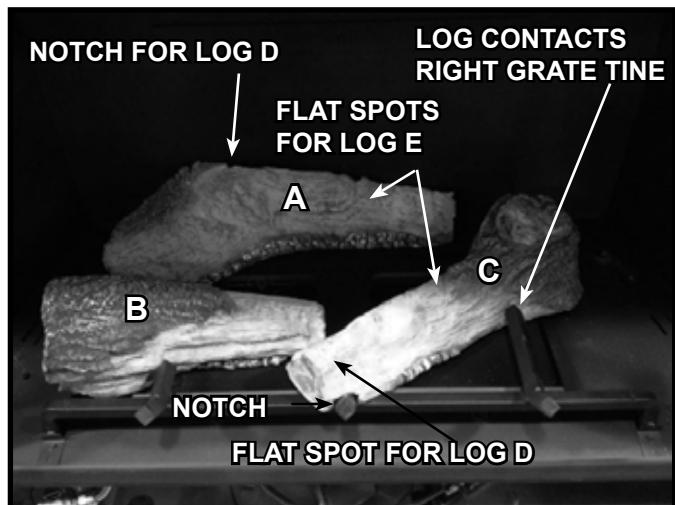
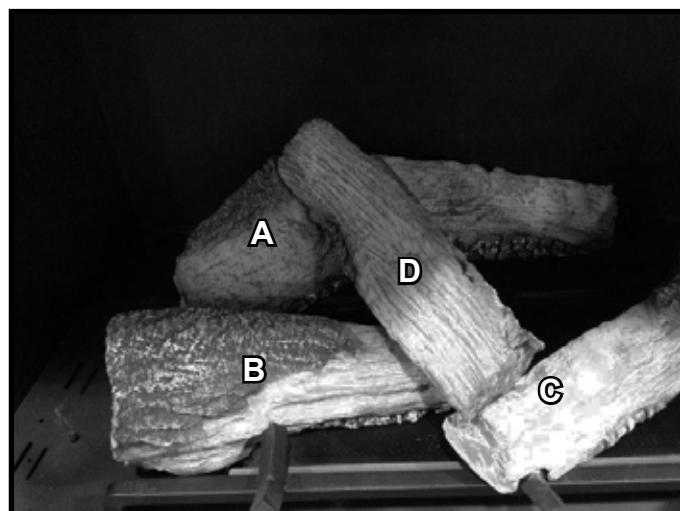
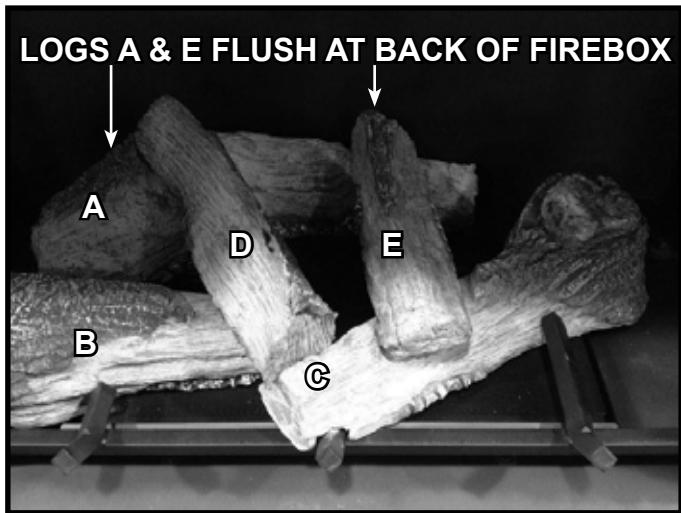

Figure 7. Log C Installed
Figure 8. Log D Installed
Figure 9. Log E Installed
3. (LOG C): Locate the notch on Log C. Place the notch over the center grate tine as shown in Figure 7. Slide the log toward the front of the appliance until the portion of the log closest to the rear of the firebox contacts the right grate tine.
4. (LOG D): Log D will utilize two flat spots for its placement as shown in Figure 7. The flat spots are located on Log A and on Log C. Locate the end of Log D that does not have bark and place it into the notch on Log A. Place the other end of Log D on the flat spot on Log C. See Figure 8. The front edge of Log A may lift slightly off the burner/hearth pan when Log D is placed properly.
5. (**LOG E**): Log E will utilize two flat spots for its placement as shown in Figure 7. The flat spots are located on Log A and on Log C. Place the “bark” end of Log E on the flat spot on Log A. Rest the other end of Log E on the flat spot of Log C. The back of Log E should be flush with the back of Log A. See Figure 9.